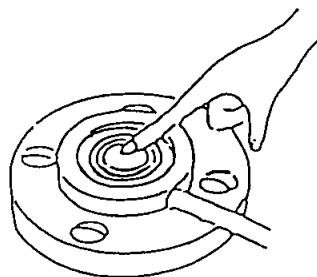

Figure 5.6
4. After performing the above work, exclude all air from between the diaphragm and the FEP protective diaphragm. Air trapped under the film can cause large measurement errors. Squeeze out remaining air with your fingers from the central part of the diaphragm toward the perimeter (refer to Figure 5.6.).